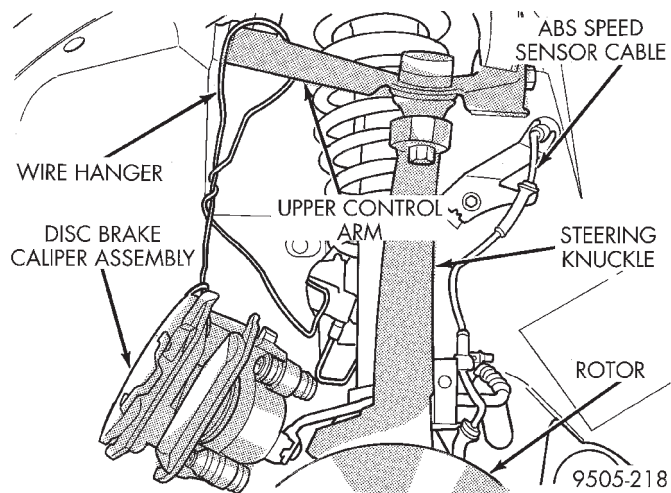

**Fig. 46 Storing Caliper**
(5) **Support caliper from upper control arm to prevent weight of caliper from being supported by brake flex hose. Supporting disc brake caliper from flex hose can damage the hose (Fig. 46).**